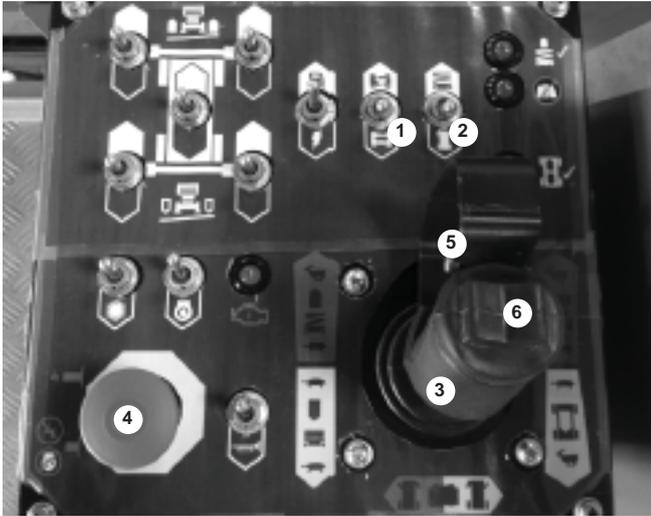

Figure 8.9
2. Set the speed switch (1) to turtle (slow) (see figure 8.9) if you are going to be driving close to other objects or need to move the S2255RT / S2755RT very slowly for other reasons.
3. Set the lift / drive switch (2) to drive (see figure 8.9).
**The S2255RT / S2755RT is about to move. If you have to make an emergency stop, release the joystick controller (3) and sharply strike the Emergency Stop switch (4) straight in.**
**To make a normal stop, slowly move the joystick controller (3) (see figure 8.9).**
4. Squeeze and hold the safety control (5) against the joystick controller (3) (see figure 8.9).
5. Push the joystick controller (3) slowly forward or pull it slowly backward, depending on which way you want to go. The further you move the joystick the faster the machine goes.
6. To make a right or left turn, press and hold the steering rocker switch (6) on top of the joystick controller (3) (see figure 8.9).